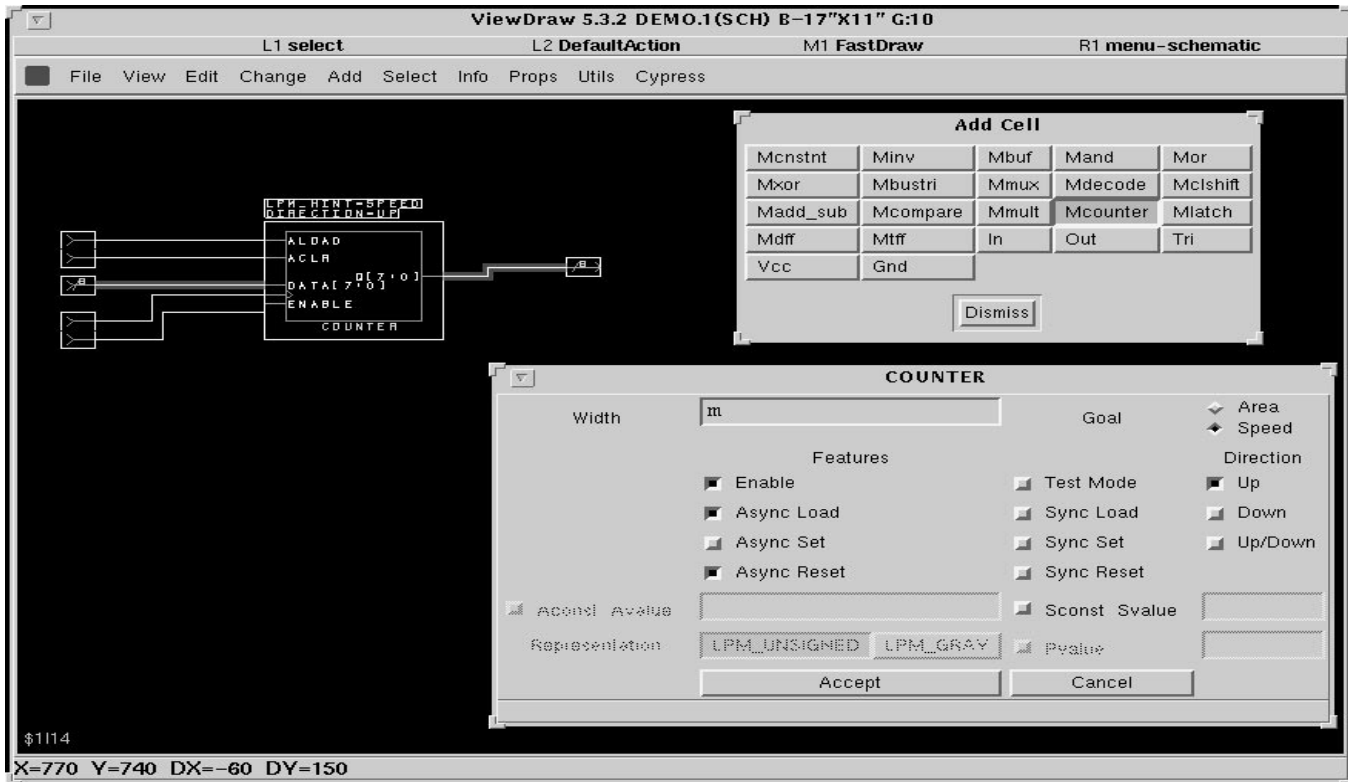

Figure 3. Using the LPM Symbol Library in Viewdraw
*Warp3* also supports the use of the LPM (Library of Parameterized Modules) Standard. With LPM, users can import schematic and text designs from any CAE tool that supports the LPM standard via an EDIF netlist. Designs based on this standard library will then be portable across many CAE and synthesis (see Figure 3) platforms.